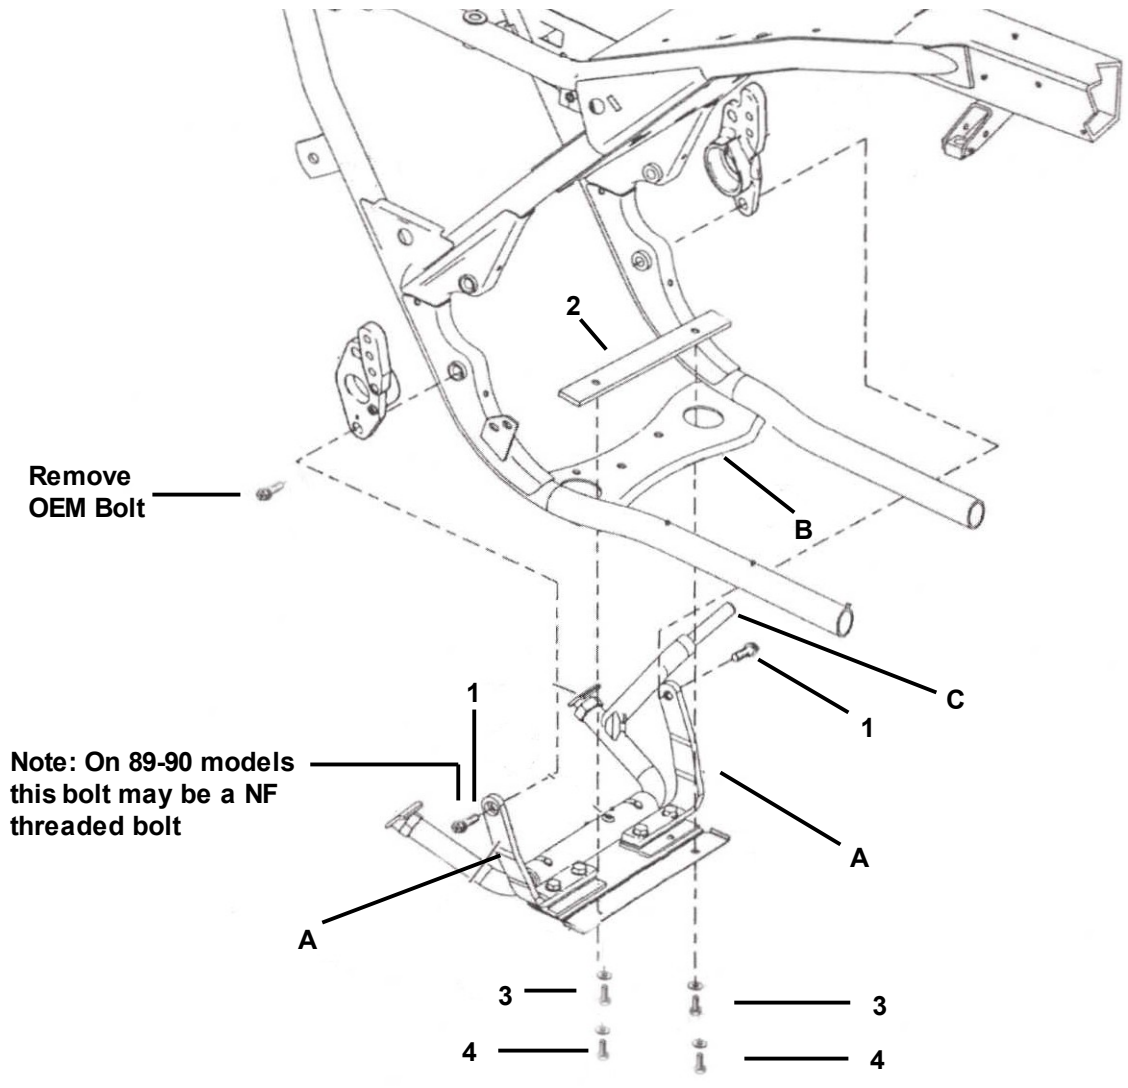

Figure 1
4. Position the display stand under the bike and install the 7/16-14X1-1/4 Allen bolts and flat washers supplied in the kit (1) through the vertical arm of the stand, (A) into the lower swing arm hole as shown in figure 1. Do not tighten completely.
**NOTE:** On some 1989 & 1990 models the OEM bolts used were a fine thread. Use the 7/16-20X1-1/4 (NF) Allen bolts provided in kit. Refer to figure 1.
5. Place the top plate (2) under the transmission and over the frame support bracket (B). Swing the stand forward and up under the frame support (B) in line with the top plate (2).
6. Use the two 1/4-20X7/8 hex bolts and flat washers (3) to start the installation. An additional 1/4 inch spacer may be required to draw the stand to the top plate. Be careful not to contact the transmission pan with the bolts during this step.
7. As the stand is drawn into the frame support bracket (B) and the top plate (2), remove the 1/4-20X7/8 bolts (3) and replace with the 1/4-20X1/2 bolts. (4) Use Loctite for the final installation and torque the bolts to 10 ft. lbs. On 1998 to 1994 models re-connect the ground strap to one of the 1/4-20 bolts. (4)
8. Torque the Lower swing arm Allen bolts (1) to 30-35 ft. lbs.